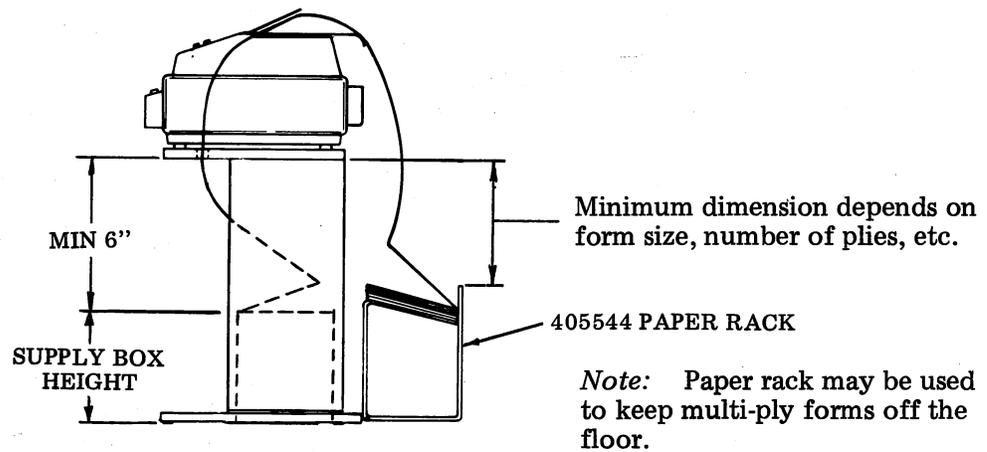

Fig. 4—Height Requirements for Customer-Provided Tables
- (b) Sufficient height of mounting to allow paper insertion and accumulation (Fig. 4).